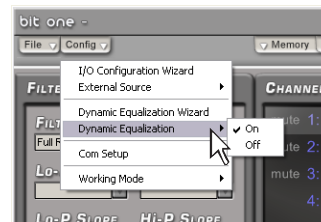

Fig.10
After enabling the "Dynamic Equalization", the "Dynamic Equalization ON/OFF" provides the ability to turn on (ON) or off (OFF) the acoustic effect of the equalization while listening to music (Fig.10).